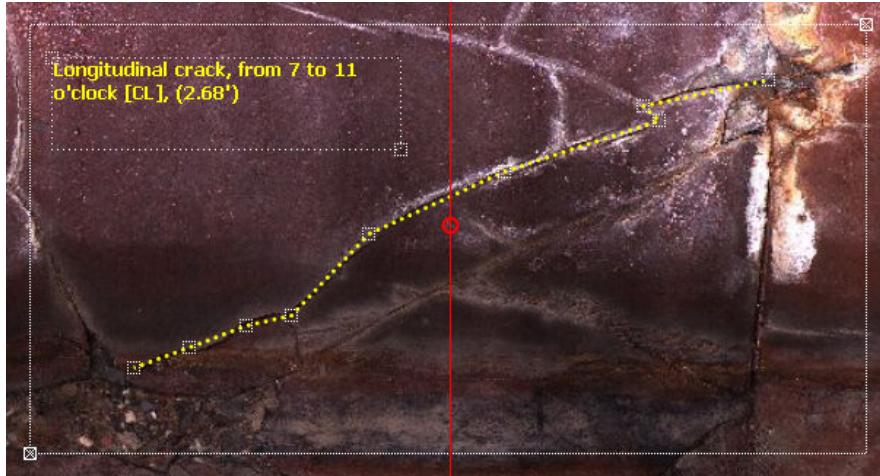

Figure 23: A selected polyline with its bounding rectangle of the text and the overall bounding rectangle.
- With the free setting you can freely modify the graphics frame with the corner points of the graphic as shown in Figure 23.